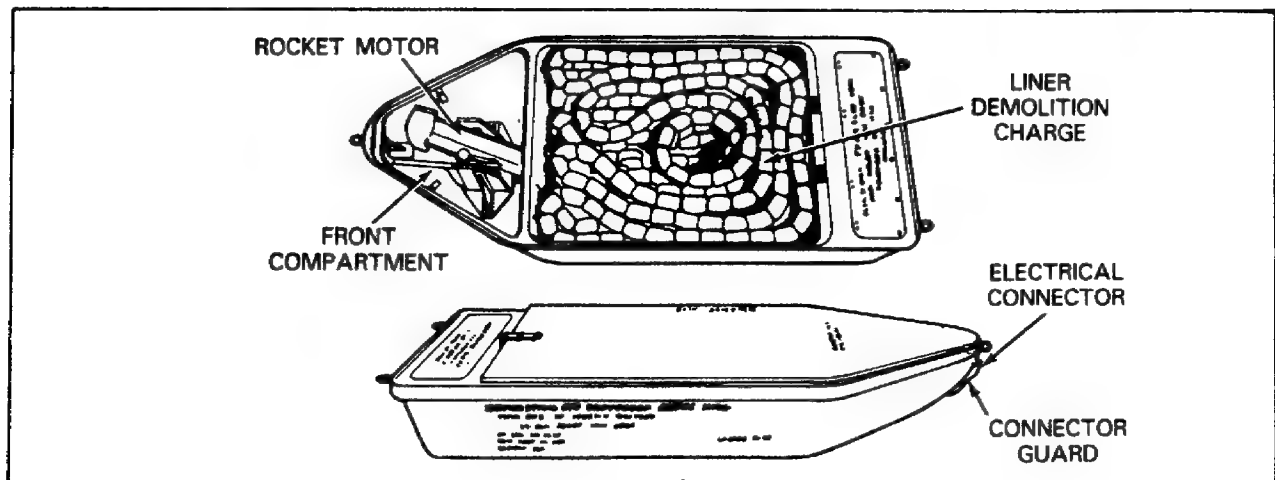

Figure 98. Demolition Kit, Projected Charge, M173.
**Demolition Kit, Projected Charge, M173.** Demolition kit, M173 (Figure 98) is an example of a mine-clearing device. It consists of a waterproof, boat-shaped skid or container 12 feet long, nearly 5 feet wide, and 2 feet high. Inside the container is a rocket motor and a 300-foot chain of C-4 explosive blocks connected by detonating cord. The whole unit is placed facing a minefield. The rocket motor is fired. As the rocket goes through the air, it pulls the explosive chain across the minefield. The explosives are then detonated, setting off all mines in the area and clearing a path through the minefield. The device is color coded olive drab with yellow markings.